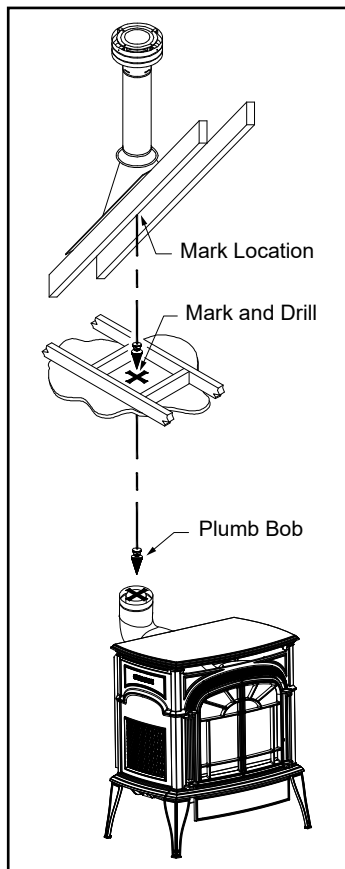

Figure 3.32
Step 2 - Set the gas appliance in the desired location. Drop a plumb bob down from the ceiling to the position of the appliance flue exit, and mark the location where the vent will penetrate the ceiling. Drill a small hole at this point. Next, drop a plumb bob from the roof to the hole previously drilled in the ceiling, and mark the spot where the vent will penetrate the roof, Figure 3.32. Determine if ceiling joists, roof rafters, framing or other materials will obstruct the venting system. You may wish to relocate the appliance or to offset, to avoid cutting load-bearing members.